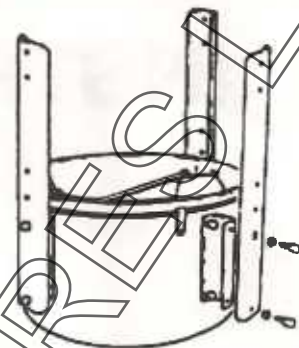

Fig.1.
2. Place skirt assembly on floor upside down (i.e. with retaining band upper most - see Fig.1). Assemble three legs to channels on skirt (see Fig.1) using 6 screws, 6 nuts, 12 washers and spanner supplied (do not fully tighten screws).